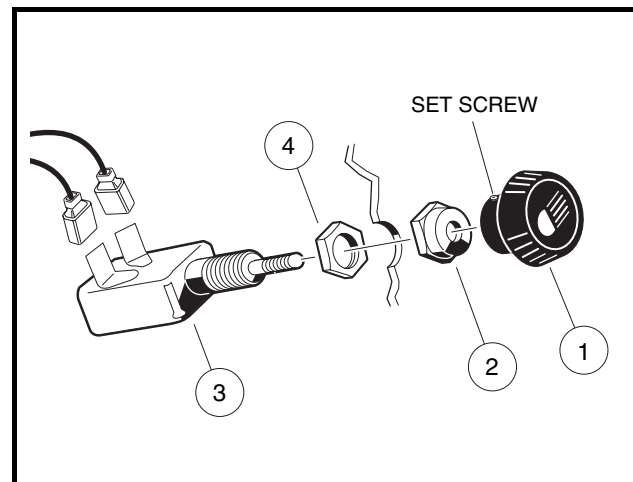

Figure 13-30 Light Switch
3. Loosen the set screw locking the light switch knob (1) to the shaft (**Figure 13-30, Page 13-28**).
6. Remove the outer nut (2) from the light switch (3) and remove.
2. Thread the check nut (4) onto the switch until an equal number of threads show on both sides. Install to the instrument panel with nut (2) on the outside of the dash and tighten the nut to 14 in-lb (1.6 N·m) (**Figure 13-30, Page 13-28**).